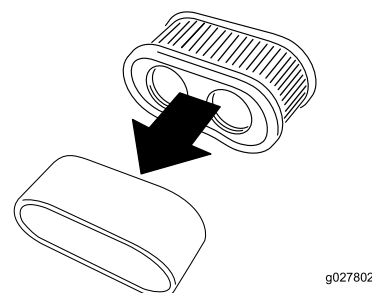

Figure 43
5. Remove the foam element from the paper element (Figure 43).